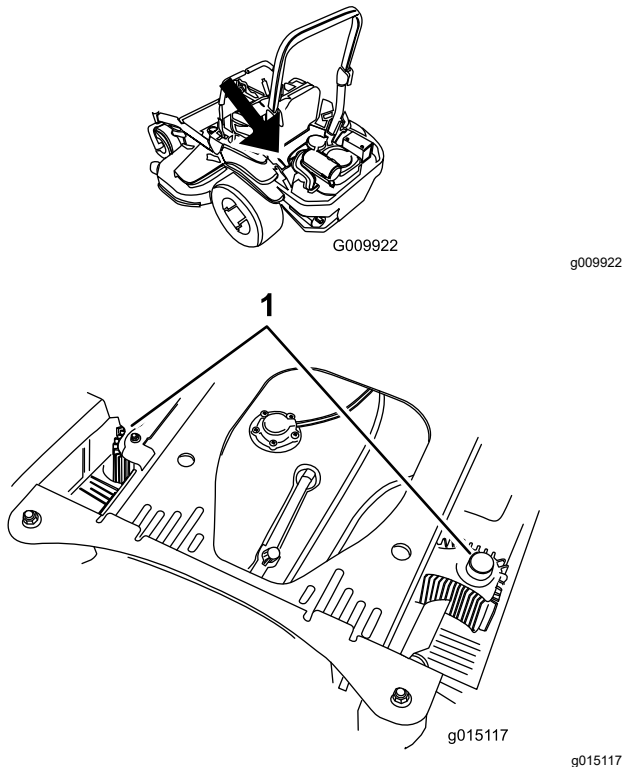

Figure 88
4. Clean the debris and grass from the hydraulic-unit shrouds (Figure 88).